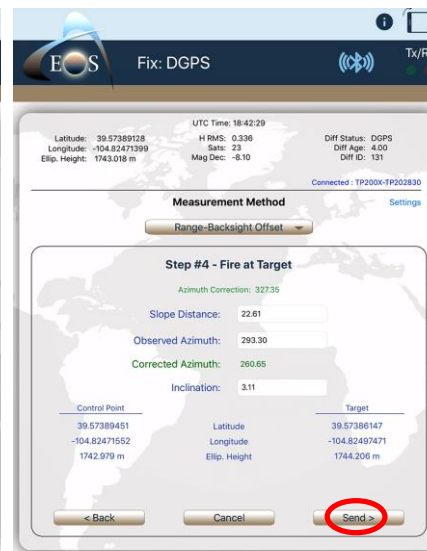

Figure 14B
- 14B. If the data looks good, tap **Send** (Figure 14B) to deliver the offset location to Collector